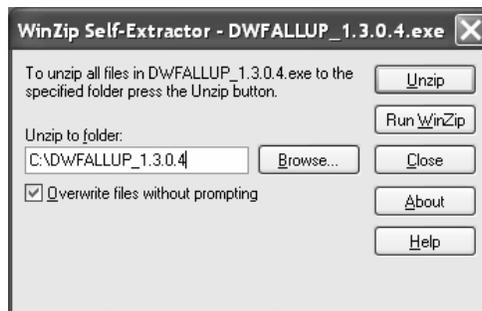

Figure 111: Saving the Fallback Updater utility on the installer laptop
4. Select the location where the utility and its supporting files will be unzipped and saved. See Figure 111.
5. Click **Unzip**. See Figure 111.